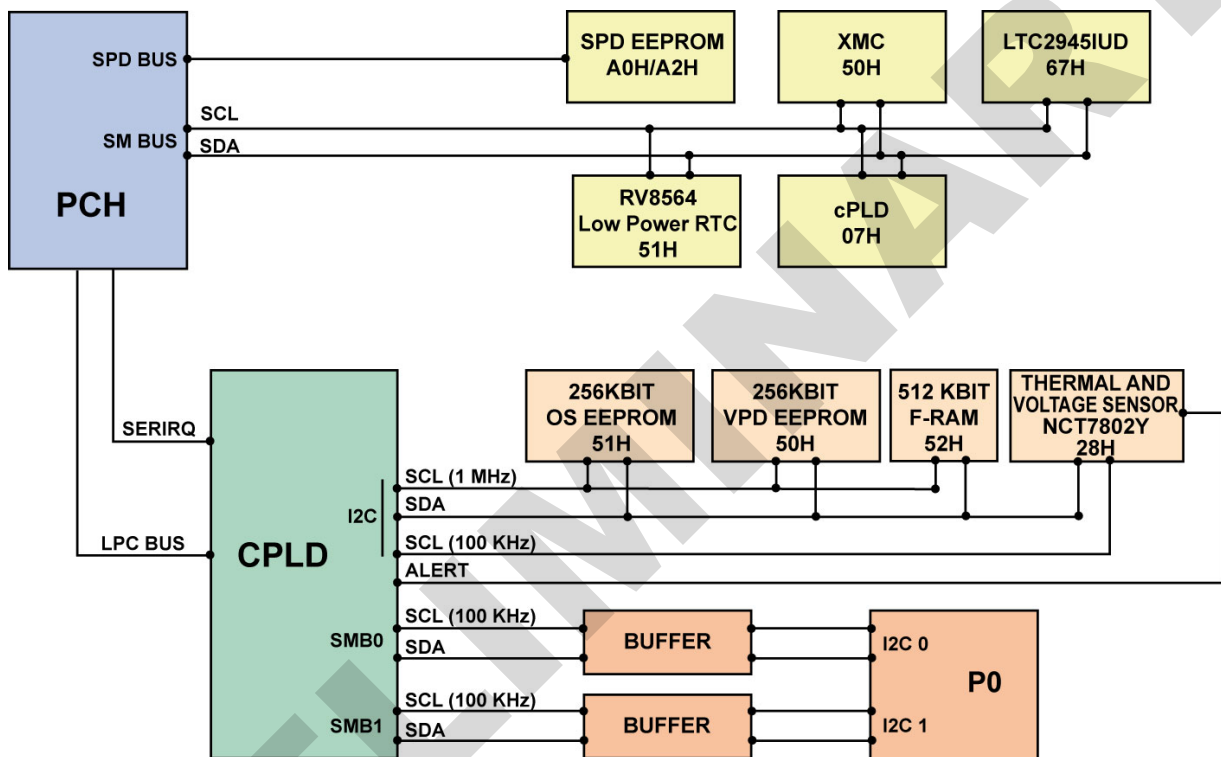

Figure 17: I2C Diagram
- > The other two are handled by the CPLD device according to Figure 17 “I2C Diagram”.